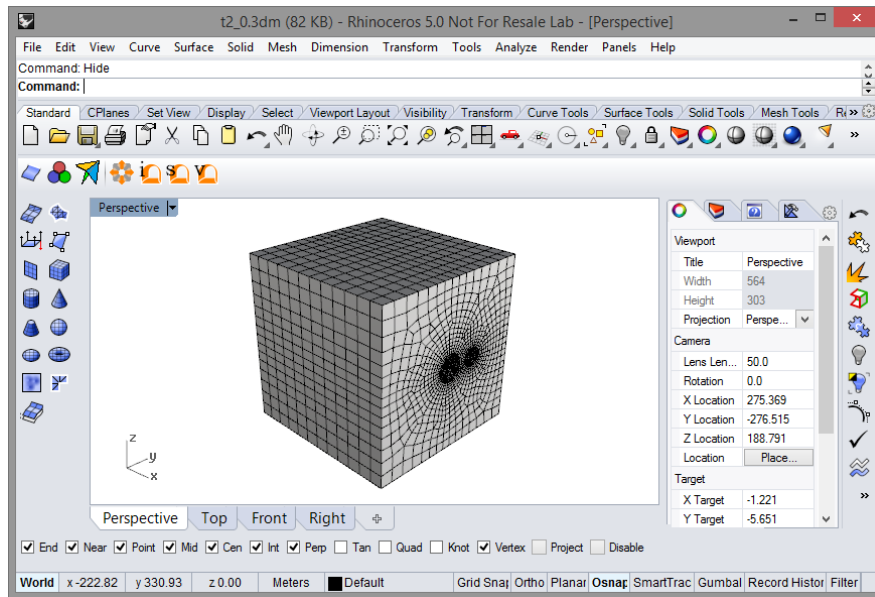

Figure 99: Quad dominant surface mesh generated by *Griddle*.
9. Type **_GSurf** on the command line to start *Griddle*'s surface remesher with the selected meshes. Select **Mode:QuadDom**, **MinEdgeLength 10**, **MaxEdgeLength 10** and press Enter. *Griddle* will create a quad dominant surface mesh with edge size approximately 10 m on the box boundaries and approximately 1.5 m on the tunnel walls as shown in Figure 99.